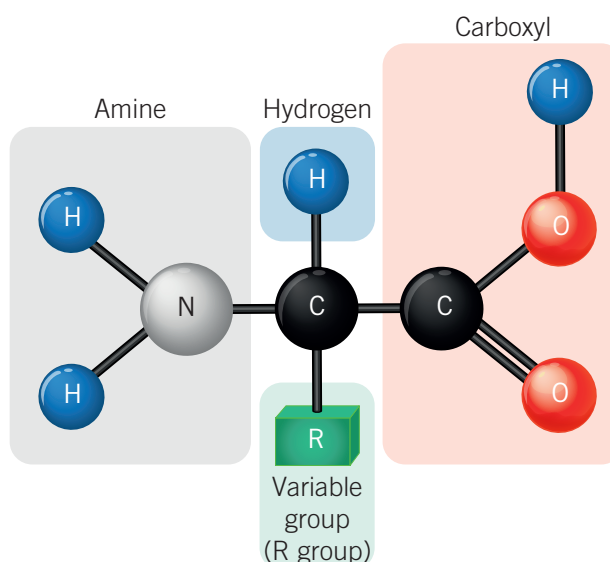

Figure 12B–1 The generalised structure of an α -amino acid, the building blocks of proteins
Many molecules in the body are present as **polymers**, that is, they are composed of a series of repeating subunits known as **monomers**. Proteins are an example of biological polymers. The building blocks (monomers) of proteins are known as α -amino acids. The generalised structure of an α -amino acid is illustrated in Figure 12B–1. An α -amino acid molecule has a central carbon atom to which is attached an amine functional group ($-\text{NH}_2$), a carboxyl functional group ($-\text{COOH}$), a hydrogen atom (H) and a group (R) that varies from one α -amino acid molecule to another. If R is not a hydrogen atom, the central carbon atom is chiral and the α -amino acid molecule will be chiral.
Figure 12B–2 A condensation reaction between two α -amino acids to form a dipeptide with a peptide bond. This reaction is repeated numerous times to form a polypeptide chain.
There are a couple of aspects of the reaction illustrated in Figure 12B–2 that should be highlighted. Firstly, the reaction to link two amino acids together is a condensation reaction – a second, small product is generated in the form of water. Secondly, the peptide bond is an example of an amide functional group ($-\text{CONH}_2$), highlighted in yellow.